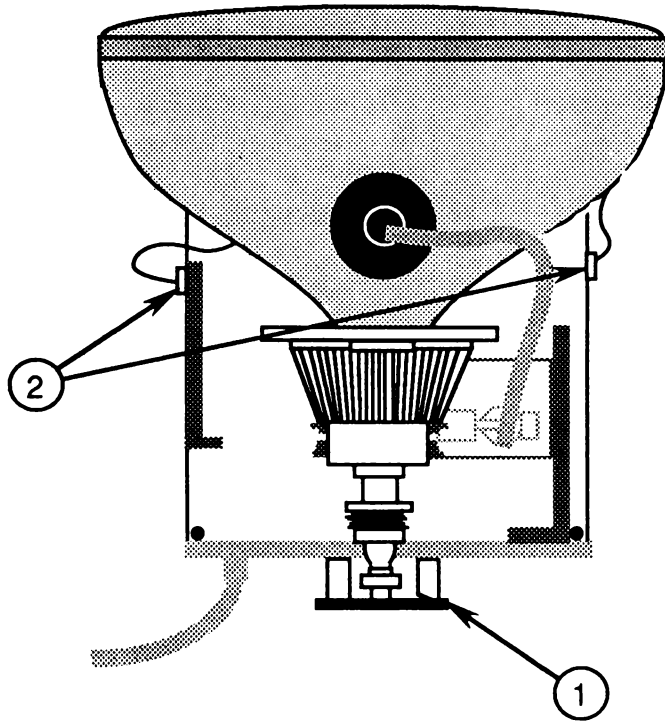

FIGURE 27
8. Replace the CRT board (Figure 27, #1). It fits only one way.
10. Replace the screws (Figure 27, #2) that secure the CRT ground straps to both sides of the metal chassis frame.